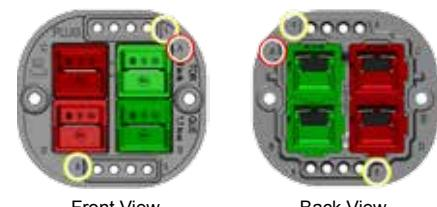

Figure 6
- i. Positions for the power contacts are labeled A thru D with A being in the upper right corner as you are looking at the front of the holder or upper left corner as you are looking at the back of the holder. (See figure 6)
- ii. Positions for the auxiliary (PowerMod®) contacts are labeled with 1 and 8. 1 is located in the upper right corner and 8 located in the lower left corner as you are looking at the front of the holder. (See figure 6)